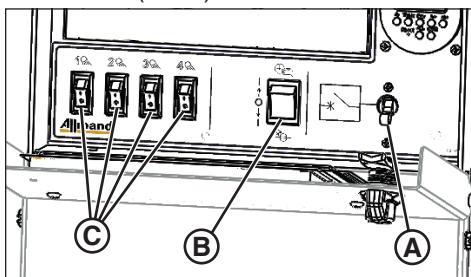

Figure 13
2. Turn the main circuit breaker (**A**, Figure 13) to the ON position.
4. Turn the Tower / Light switch (**B**, Figure 13) to the LIGHT position.
5. Turn the individual light switches (**C**, Figure 13) (1 - 4) to ON (if set to OFF).
1. Turn the Photocell / Timer switch (**B**, Figure 13) to the TIMER position.
Turn the Photocell / Timer switch (**B**, Figure 13) to the PHOTOCELL position. The lights will automatically come on in the absence of ambient light.
Turn the Photocell / Timer switch (**B**, Figure 13) to the TIMER position.